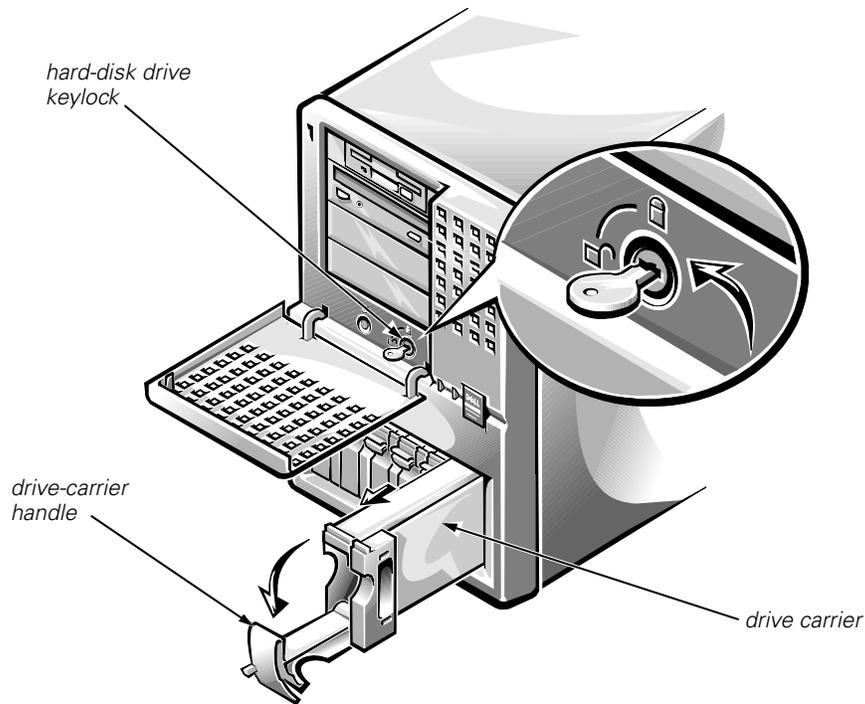

Figure 4-9. Hard-Disk Drive Removal
- 3. Unlock the hard-disk drive keylock (see Figure 4-9).**